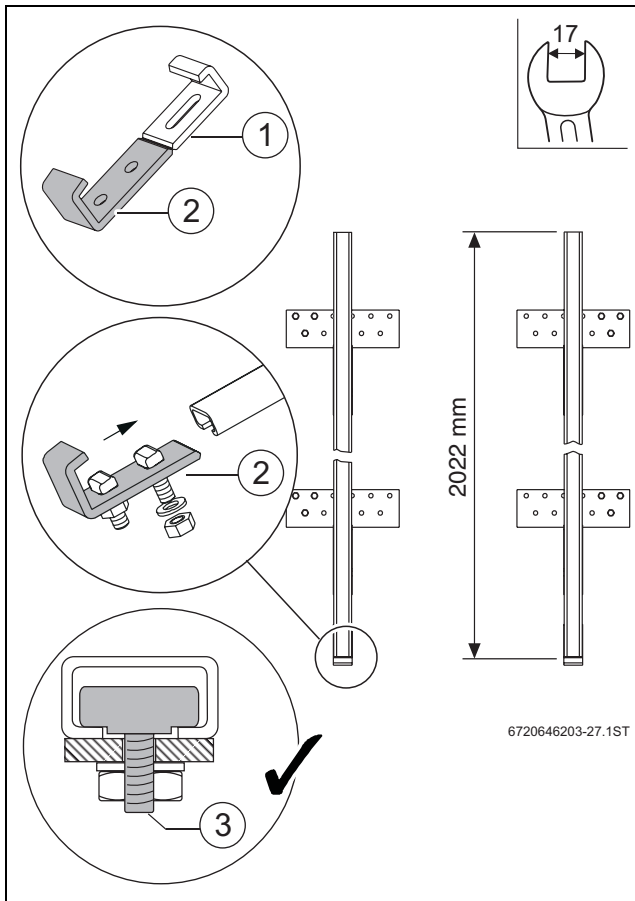

Fig. 30 Fitting clamping brackets
- ▶ Pre-assemble lower clamps onto the horizontal rail (2022 mm): → Fig. 30, page 22.